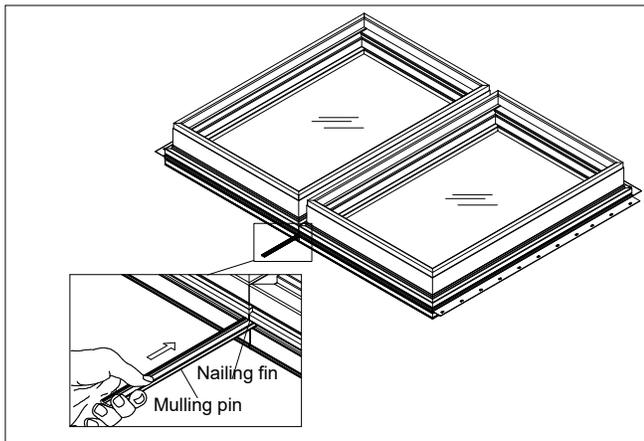

Figure 7
- Slide aluminum mulling pin into nailing fin drip cap kerf. Make sure mulling pin is recessed at least 1/4" (6) on each end to allow for sealant placement and horizontal mulling pin application later. See figure 7.